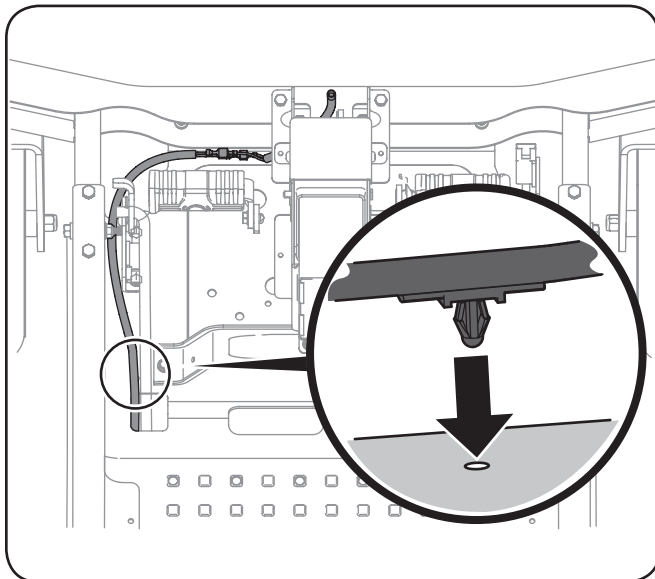

Figure 1-12
- a. Snap the rosebud clip into the top of the frame. See Figure 1-12.